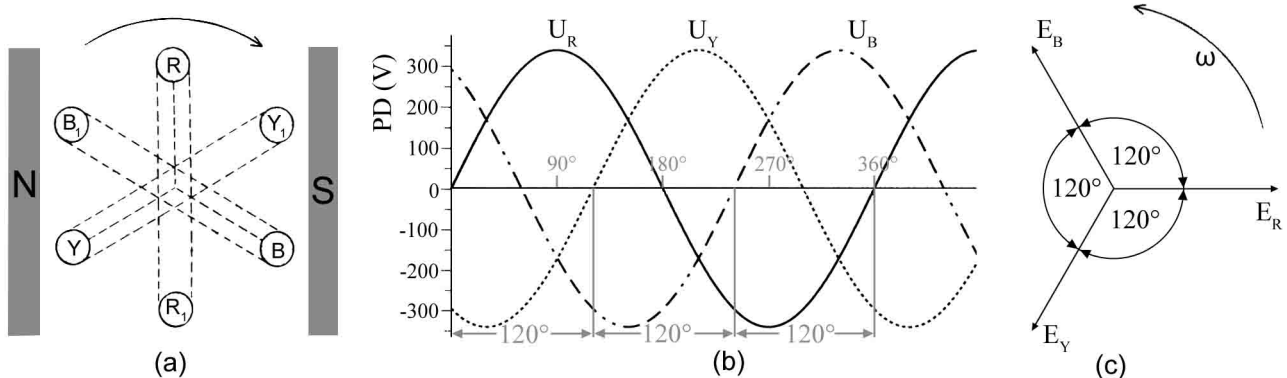

Figure 14.1: A three-phase AC supply with 240V RMS generated in each coil: (a) generation; (b) wave diagram; (c) phasor diagram.
Most domestic supplies are single-phase AC with a phase and neutral wire. However, most electricity is generated and transmitted as three-phase AC. Rather than having a single coil rotating in a magnetic field, three-phase generators have three coils fixed at 120° to each other; thus three voltages, that are 120° out of phase with each other, are produced in three separate circuits (figure 14.1). The phases are normally called red (R), yellow (Y) and blue (B) or line 1 (L_1), line 2 (L_2) and line 3 (L_3), or in the USA they are called A-phase, B-phase and C-phase.
If you look at the wave and phasor diagrams in figure 14.1 b and c it should be clear that if the three phases are added together the result is that the voltages cancel each other out and $V_R + V_Y + V_B = 0V$. Therefore, if one end of each coil (R_1 , Y_2 & B_3 from figure 14.1a) are connected together a common neutral line at zero potential is created and the result is called a *4-wire 3-phase supply*. Figure 14.2a shows how the generator (or transformer) coils can be connected to give a 4-wire supply, this configuration is called a *star*, *wye* or *Y* connection and the point x is called the *neutral point*, *star point* or *zero point*. Figure 14.2b shows an alternative connection for the generator coils, known as a *delta* or *mesh* connection, this configuration has no neutral wire and provides a *3-phase 3-wire supply*.